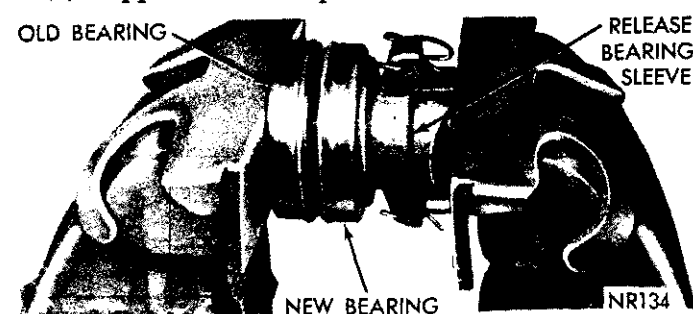

Fig. 12—Replacing Clutch Release Bearing
(1) Position new bearing on sleeve and place old bearing against face of new bearing.
(2) Support parts in a vise and carefully press new bearing on sleeve (Fig. 12). Make certain bearing is seated on shoulder of bearing sleeve. Rotate bearings as they are pressed together.